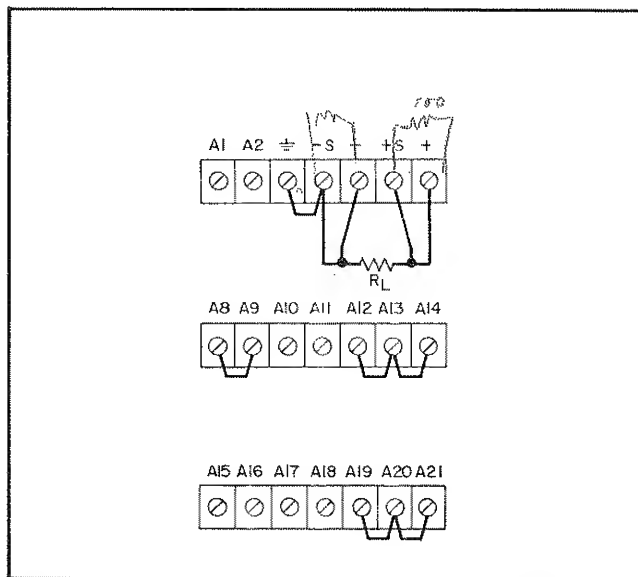

Figure 3-5. Remote Load Sensing
**3-38** Remote sensing is used to maintain good regulation at the load and reduce the degradation of regulation which would occur due to the voltage drop in the leads between the power supply and the load. Remote sensing is accomplished by utilizing the strapping pattern shown in Figure 3-5. The power supply should be turned off before changing strapping patterns. The leads from the sensing ( $\pm S$ ) terminals to the load will carry much less current than the load leads and it is not required that these leads be as heavy as the load leads. However, they must be twisted or shielded to minimize noise pickup.